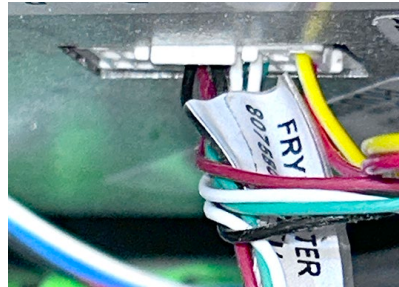

Figure 8
11. Connect the new harness to the VIB board (see Figure 8).